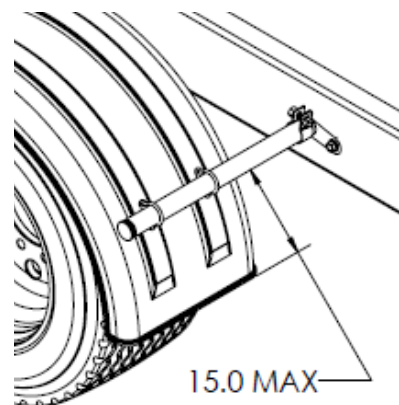

Figure 3
B. If possible, position the mounting brackets so they are located within 15" of the bottom of the fender. This guards against wind blowing the leading edge of the fender back into the tire (Figure 3).
D. Spacers are provided to bring the steel swivel away from the frame in the event of any obstructions (Figure 3).